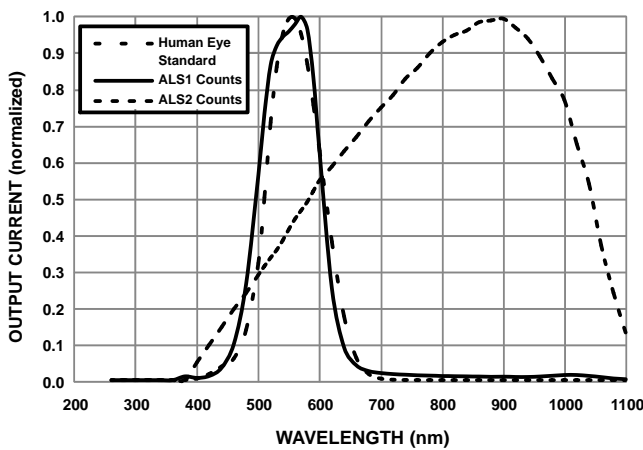

Figure 4. ALS Spectral Response (Normalized)
7. Refer to Figure 4 for more information on spectral response.
The NOA3315 contains two ambient light sensors. The first ambient light sensor employs a photo diode with its own proprietary photopic filter limiting extraneous photons, and thus performing as a band pass filter on the incident wave front. The filter only transmits photons in the visible spectrum which are primarily detected by the human eye. The photo response of this sensor is as shown in Figure 4. The second ambient light sensor employs a similar photo diode but without a light filter. Either or both ALS can be enabled. When disabled, an ALS is put in power down mode.